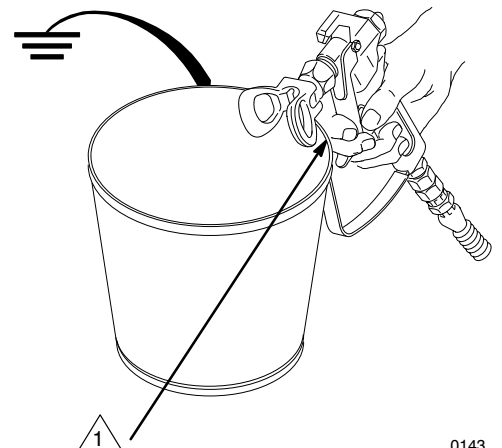

Fig. 3
7. **To prime the pump**, hold a metal part of the gun firmly against into a metal waste container. See Fig. 3. Squeeze the trigger and hold it open, turn the ON/OFF switch to ON, and slowly increase the pressure setting until the sprayer starts. Keep the gun triggered until all air is forced out of the system and the paint flows freely from the gun. Release the trigger and engage the gun safety latch.